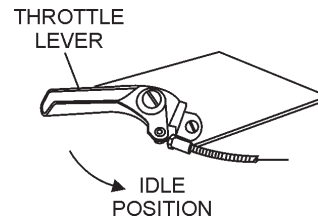

Figure 9. Throttle Lever (Idle Position)
2. Place the trowel's **throttle lever** (Figure 9) to the "**IDLE**" position.